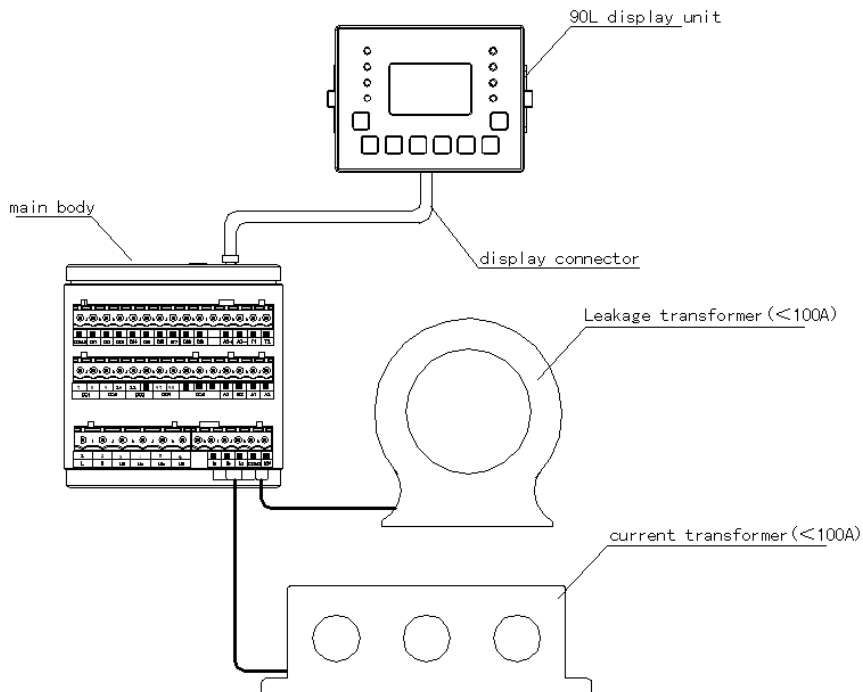
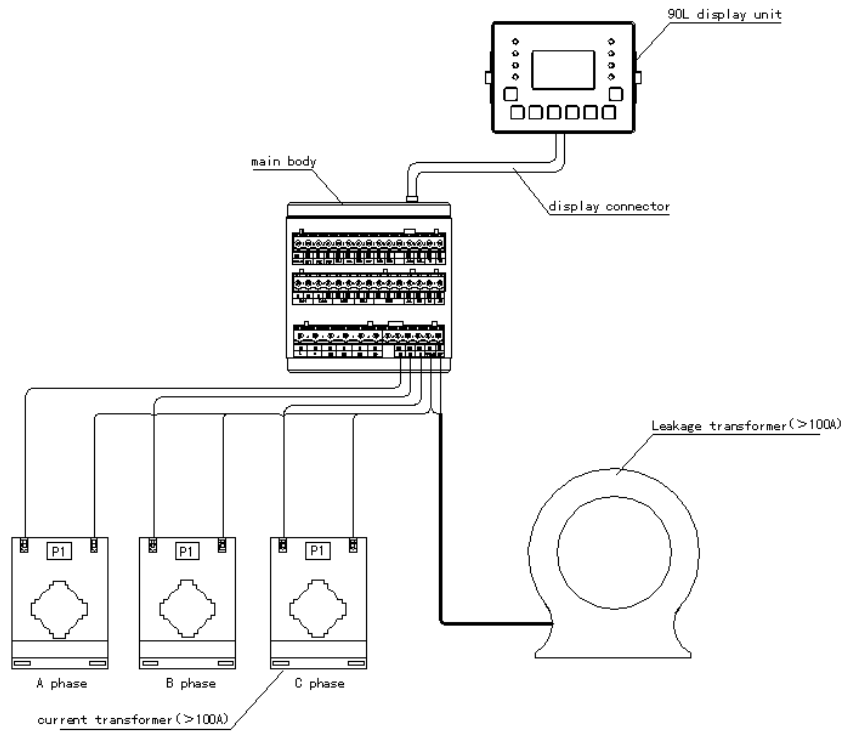

FIG. 1 Composition of products with 100A and below specifications
FIG. 2 Composition of 250A and 800A
5.1 The product composition of ARD2F is shown in Figure 1, Figure 2